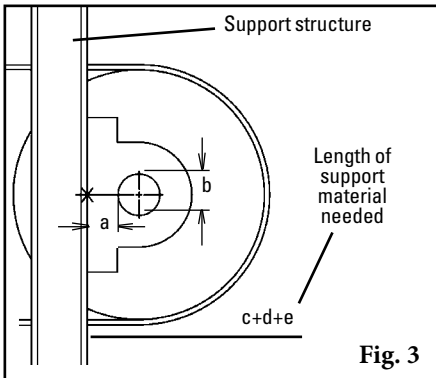

Fig. 3
5. **Cut chute opening.** Using the adjusted intersecting mark ("+") established in Step 4, lay out and cut the required opening 5" x 6" (125x150mm) on the chute (Fig. 3). If access hole is required, see Step 7.
- Measure from the back of the pulley shaft to the support structure (Fig. 3).
- 8c. Install an adjusting arm onto pole end.** Rotate the tensioner around the pole until the optimum mounting position is located. The J bolt mount can be located in any position 360° around the pole. The only requirement is that the J bolt and spring remain perpendicular to the adjusting arm (Fig. 3). **NOTE:** adjusting arm can be located any place along the end of the pole to align with J bolt mount.